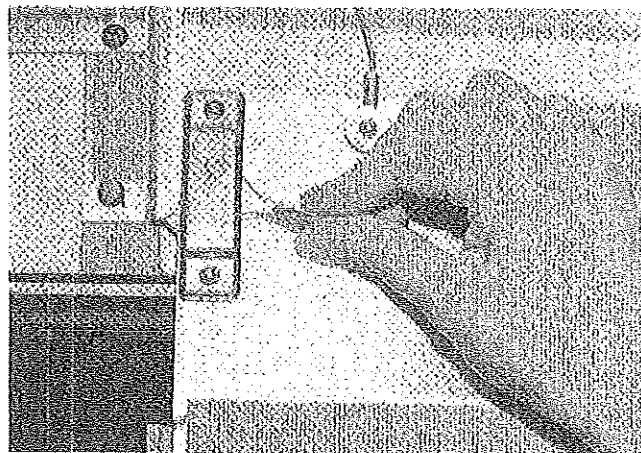

FIGURE 21
5. Rotate the hinged top door plate to vertical position and lock in place with the two screen door sash locks. See Figure 21.